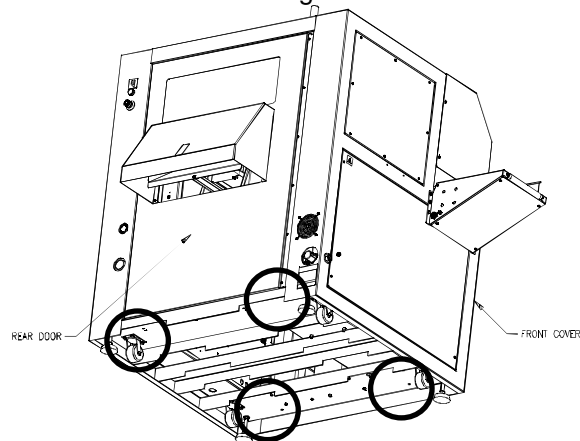

Figure 2-1. Lag Screw Locations
Remove the packing materials and four lag screws. Two lag screws are located at each end of the machine, behind the front cover and rear door as shown in Figure 2-1.
2. Using a 9/16" wrench, remove the lag screws from the two front locations shown in Figure 2-1.
4. Remove the two lag screws from the two rear locations shown in Figure 2-1.